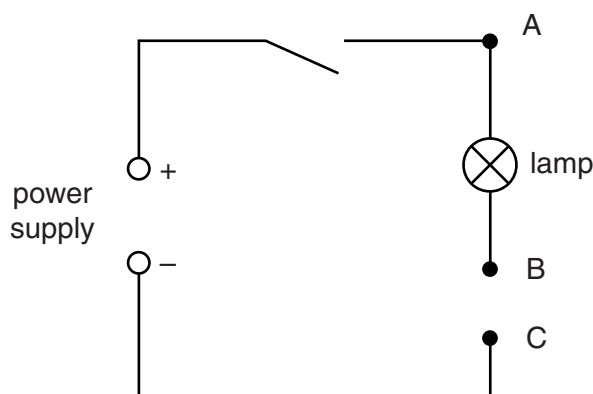

Fig. 4.1
Sufficient connecting leads to enable the **Supervisor** to set up the circuit shown in Fig. 4.1 (see Note 3).
- ensure that the circuit is set up as in Fig. 4.1 with the switch open,